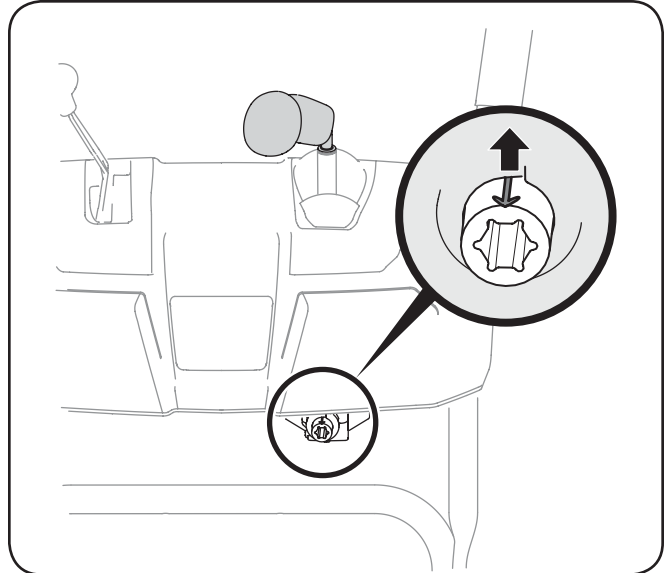

Figure 3-6
- Rotate the joystick to the one o'clock position so that the silver indicator arrow on the pinion gear below the control panel faces upward. See Fig. 3-6.